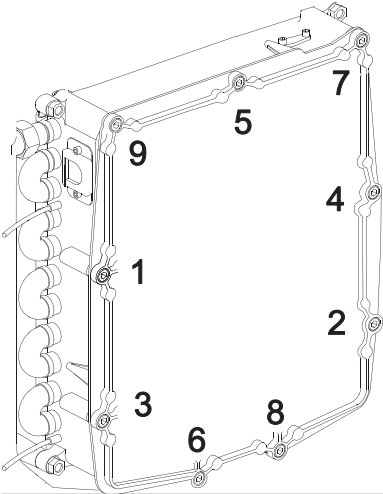

Figure 31: Tighten hex bolts in cross pattern direction.
2. Place the heat exchanger cover onto the heat exchanger and loosely install the 6mm hex bolts and lock washers removed in step 6. Tighten the 6mm hex bolts in a cross pattern as shown in the Figure 31.